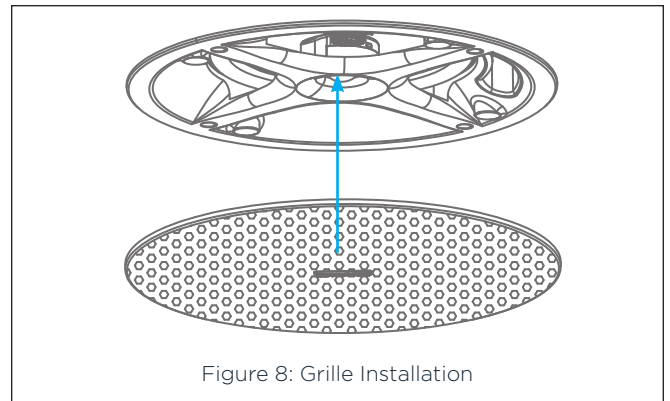

Figure 8: Grille Installation
7. After the speaker is installed, and transformer tap adjustments are made, the grille can be installed. The grille is held in place by powerful magnets on the speaker frame. Place the grille against the speaker and the magnets will hold it firmly in place. When properly installed, the grille should make contact with the wall all the way around the speaker (see Figure 8).